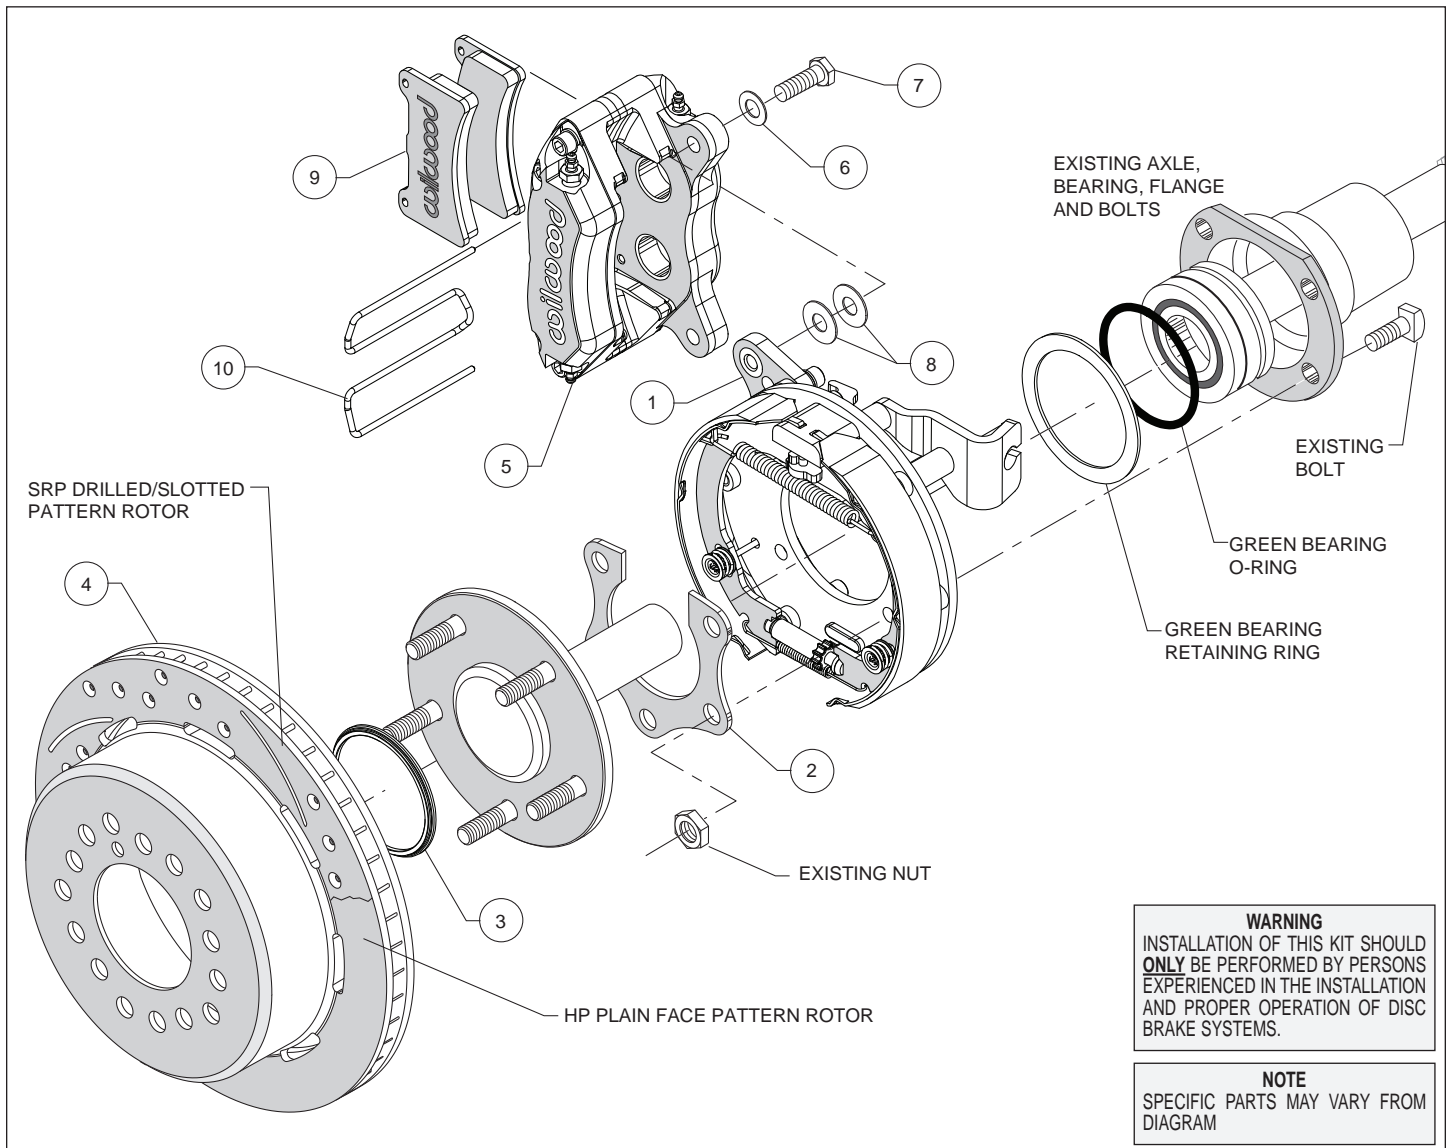
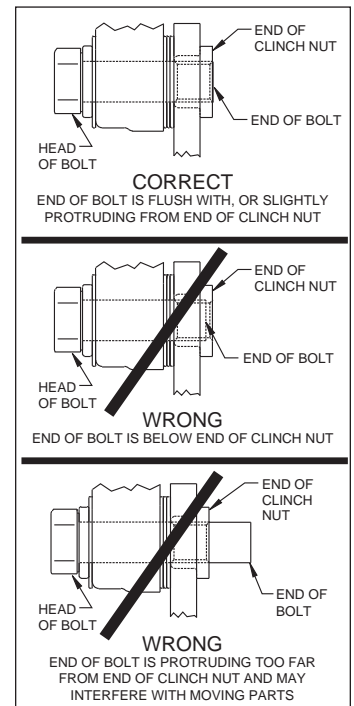

Figure 3. Typical Installation Configuration
Figure 7. Clinch Nut Engagement Diagram
**Assembly Instructions** (numbers in parenthesis refer to the parts list, and Figure 3 on the preceding pages): **CAUTION:** All mounting bolts must fully engage clinch nuts. Be sure to check that all bolts are either flush or protruding through flanged side of clinch nut after shimming, Figure 7.
- Temporarily remove the retaining ring and o-ring from the bearing. Use care so as not to damage those components. Orient the bracket assembly (1) as shown in Figure 3 and Photo 1 and slide it onto the axle and past the bearing. Reinstall the retaining ring and o-ring onto the bearing, again using care. Insert the axle and bracket into the axle housing. Ensure that the bracket assembly backing plate fits flush against the axle housing flange. **NOTE:** The bearing retaining ring should be sandwiched between the axle housing flange and the new bracket assembly.
- Install the bearing retainer (2) with the opening pointing upward and the bearing relief step facing inward (toward the bearing), as shown in Figures 3 and 6, and Photo 2. Secure retainer and bracket assembly to the axle housing flange using the Original Equipment Manufacturer (OEM) bolts and nuts, Figure 3. Apply red *Loctite*® 271 to the OEM bolt threads and torque to OEM specifications.
- Slide the rotor registration adapter (3) onto the axle register on the axle flange with the smaller O.D. facing toward the rotor/hat (4), Photo 3. Align the correct hole pattern in the rotor/hat with the stud pattern on the axle flange and slide into place, Figure 3 and Photo 4. **NOTE:** The rotor/hat must fit flush against the axle flange or excessive rotor run out may result. Install three lug nuts (finger tight) to keep the rotor/hat assembly in place while continuing with the installation. **NOTE:** Some OEM and after market axles come with stud sizes larger than 0.50" diameter. Verify stud size and have a qualified machine shop drill the bolt circle of the hat/rotor to the correct stud size, if necessary.
- **NOTE:** Please reference the caution statement at the beginning of the assembly instructions. Mount the caliper (5) onto the caliper mounting bracket (1) using bolts (7) and washers (6), as shown in Figure 3. Initially place two .035" thick shims (8) on each bolt between the caliper and the bracket, Photo 5. Temporarily tighten the mounting bolts and view the rotor (4) through the top opening of the caliper. The rotor should be centered in the caliper, Photo 6. If not, adjust by adding or subtracting shims between the bracket and the caliper. Always use the same amount of shims on each of the two mounting bolts. **NOTE:** The end of each bolt must be flush with or slightly protruding from the head of the clinch nut, as shown in Figure 7. If necessary place spare shims between washer (6) and caliper mounting ear to achieve the proper clinch nut engagement. Once the caliper alignment and clinch nut engagement are correct, remove the bolts one at a time, apply red *Loctite*® 271 to bolt threads, and torque to 40 ft-lb.